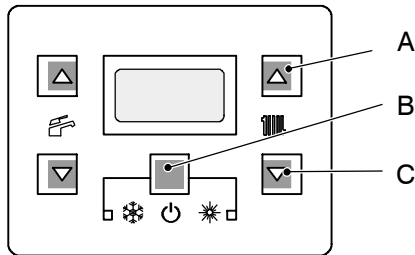
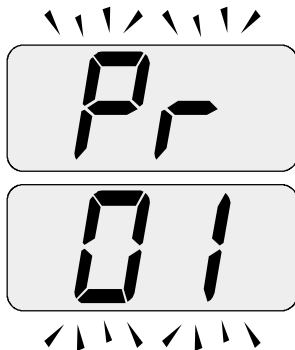
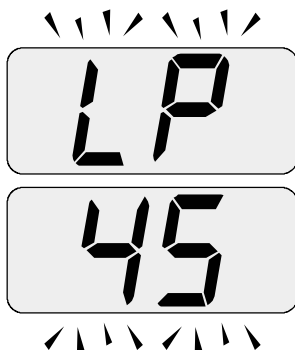
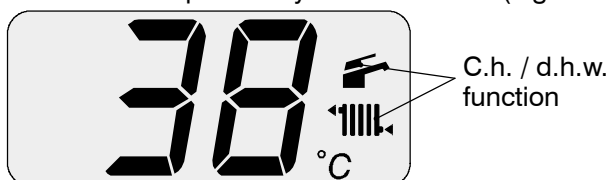

Fig. 11.5
Fig. 11.6
Fig. 11.7
Fig. 11.10
- 14 To enter in the parameters setting mode press contemporary the 3 keys (A – B – C Fig. 11.5) for 10 second until the display shows Fig. 11.6
- 15 Press keys A and C (Fig. 11.5) at the same time until the display shows the letters **LP** that alternate with the heating water temperature value (e.g.**45**), indicating the activation of the "chimney sweep function" at minimum output (Fig. 11.7).
- 23 Press keys A – B – C (Fig. 11.5) at the same time again to exit the "chimney sweep mode" and return to the previously set boiler status (Fig. 11.10)